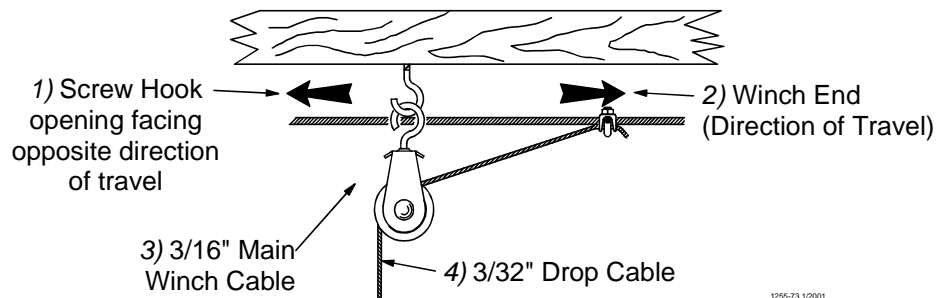

Figure 13. Screw Hook Installation
The openings of the screw hooks must be pointed away from the direction of travel when the Power Winch raises the feeder line. See **Figure 13**.
2. Thread the end of the 3/32" or 1/8" cable through the pulley toward the winch. Clamp this end to the 3/16" winch cable about 6" [150 mm] from the last pulley, using a 3/16" cable clamp. See applicable figure; **Figure 13 or 17**.